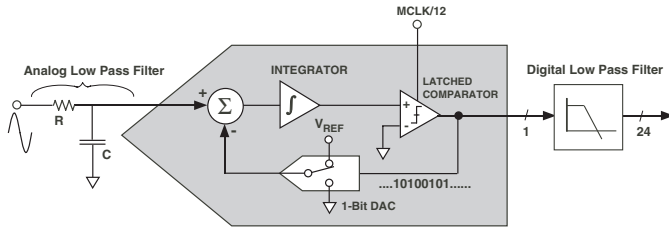
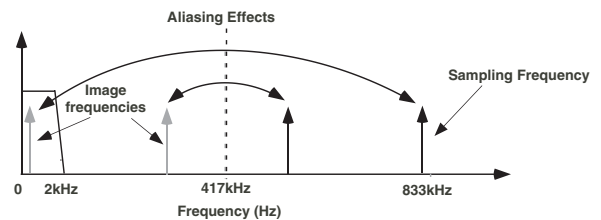

Figure 5 - First order Sigma-Delta ( $\Sigma-\Delta$ ) ADC
Figure 7— ADC and signal processing in current channel or voltage channel
The analog-to-digital conversion in the ADE7754 is carried out using second order sigma-delta ADCs. The block diagram in Figure 5 shows a first order (for simplicity) sigma-delta ADC. The converter is made up of two parts, first the sigma-delta modulator and secondly the digital low pass filter.
Figure 5 also shows an analog low pass filter (RC) on the input to the modulator. This filter is present to prevent aliasing. Aliasing is an artifact of all sampled systems. Basically it means that frequency components in the input signal to the ADC which are higher than half the sampling rate of the ADC will appear in the sampled signal at a frequency below half the sampling rate. Figure 7 illustrates the effect, frequency components (arrows shown in black) above half the sampling frequency (also know as the Nyquist frequency), i.e., 417kHz get imaged or folded back down below 417kHz (arrows shown in grey). This will happen with all ADCs no matter what the architecture. In the example shown it can be seen that only frequencies near the sampling frequency, i.e., 833kHz, will move into the band of interest for metering, i.e, 40Hz - 2kHz. This fact allows us to use a very simple LPF (Low Pass Filter) to attenuate these high frequencies (near 900kHz) and so prevent distortion in the band of interest. A simple RC filter (single pole) with a corner frequency of 10kHz produces an attenuation of approximately 40dB at 833kHz—see Figure 7. This is sufficient to eliminate the effects of aliasing.